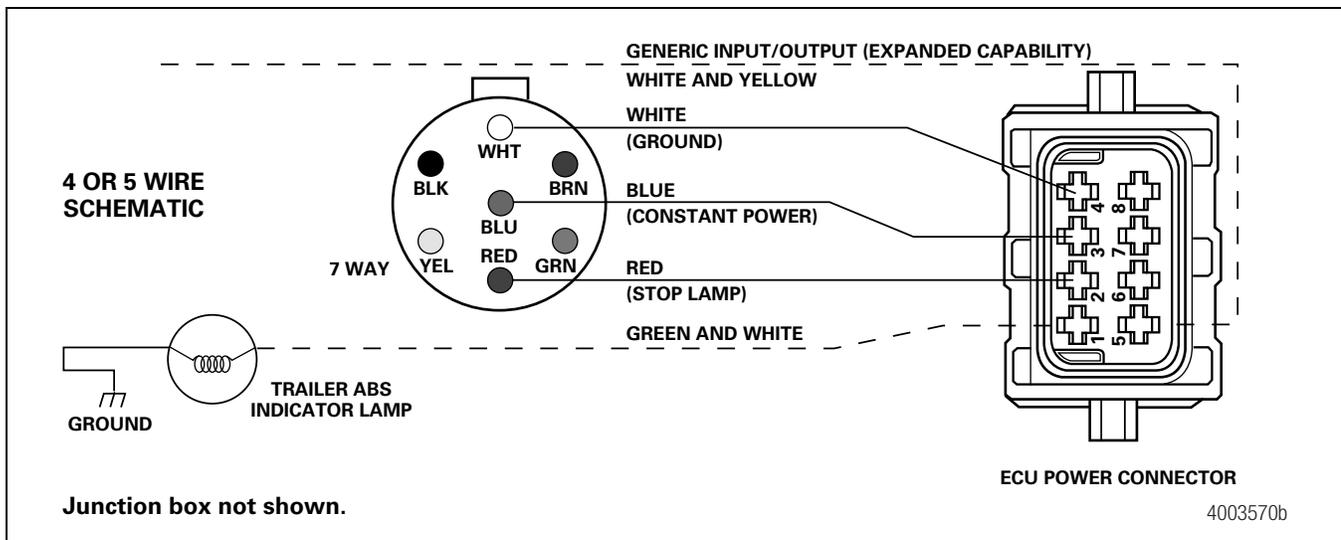

Figure 10
- **For an optional blunt-cut power cable:** Wire the cable and ABS indicator lamp to the seven-way connector on the trailer according to the following diagram. Figure 10.